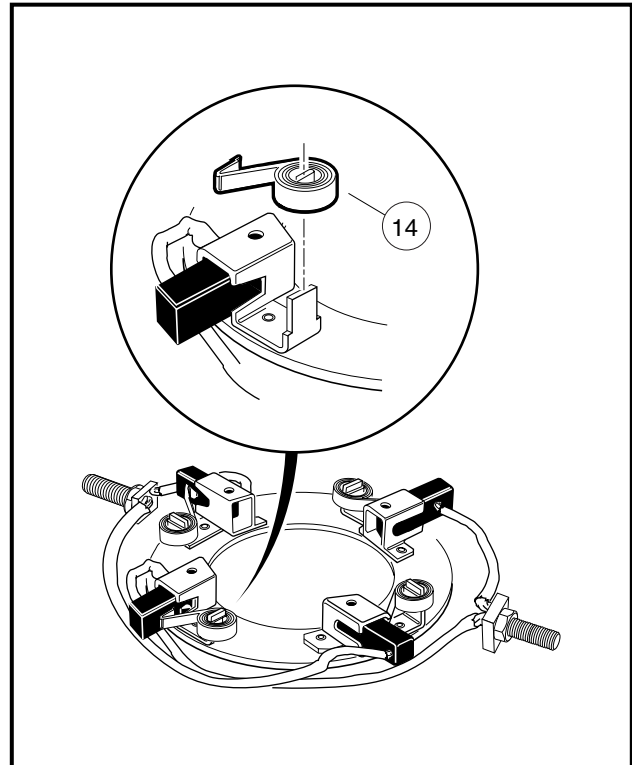

Figure 15-6 Brush Spring Removal
- To remove brush springs (14) from rigging, lift the spring extensions out and over the brush mounts and then slide the springs off their mounting tabs (**Figure 15-6, Page 15-5**).
- 2.2. One at a time, push brush spring extensions back from brushes and slide the brushes back until they are completely retracted into their mounting slots. Then position the brush springs against the sides of the brushes so that spring pressure will hold them in the retracted position (**Figure 15-6, Page 15-5**).